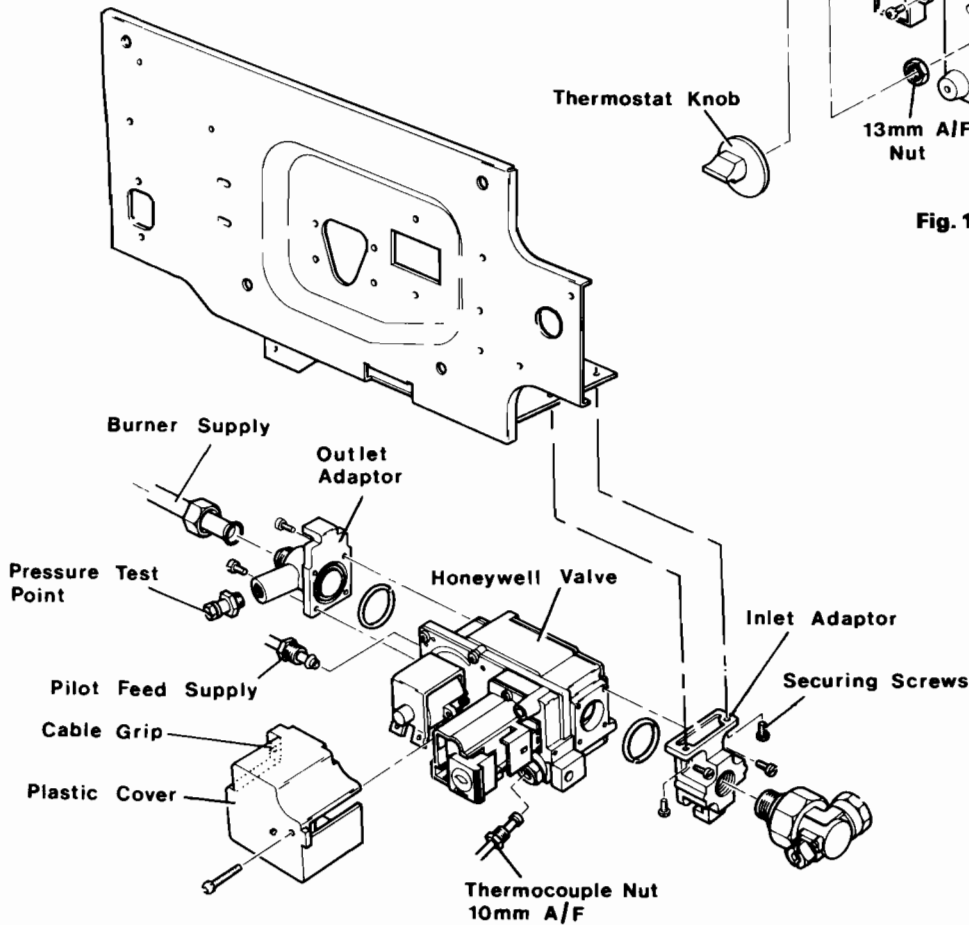

Fig. 19.
### Honeywell Gas Valve (Fig. 19)
- (c) Release screw on plastic cover on gas valve. Remove cover disengaging the electrical cable from cable grip (Fig. 19).